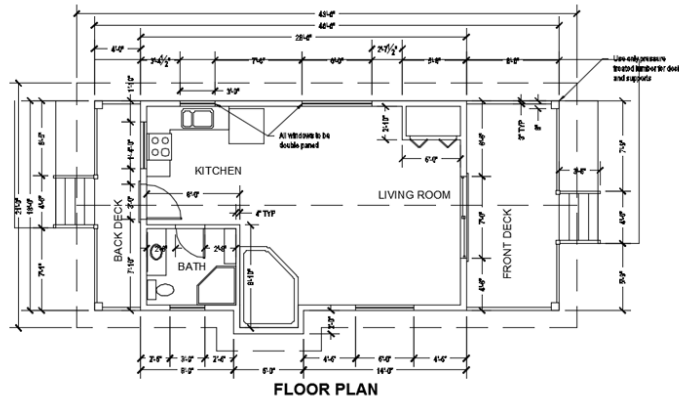

FIGURE 15.8: The preview of the cabin drawing, ready to print
1. Click the Preview button in the lower-left corner of the Plot dialog box. The computer takes a moment to calculate the plot and then displays a full view of your drawing as it will fit on the page (see Figure 15.8). If a Plot Scale Confirm dialog box opens, click Continue.
When your print comes out, it should look like Figure 15.8, shown earlier. Check the lineweights of the various components on the print. You might have to adjust the settings outlined in this section when plotting to a physical plotter attached to your computer.